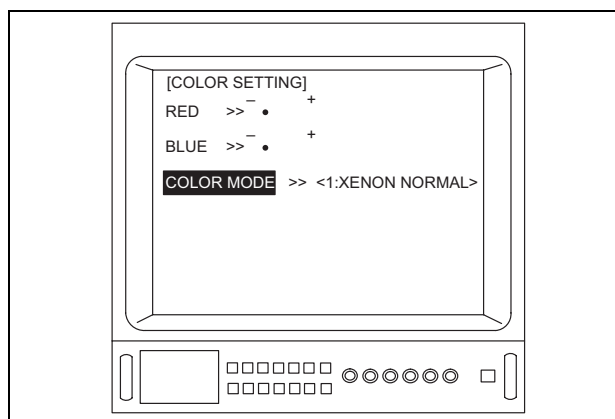

Figure 5.27
7. Depress the menu switch “↵” or the “Enter” key on the keyboard to adjust the color mode (see Figure 5.27).